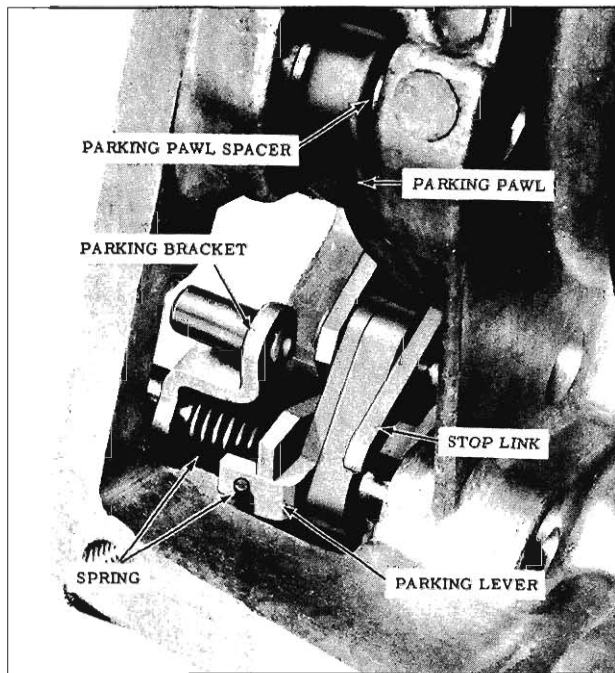

Fig. 6-102 Parking Pawl Assembly
Parking Pawl Linkage (Fig. 6-102)
5. Hook spring on parking lever, holding stop against pin. (Fig. 6-102)